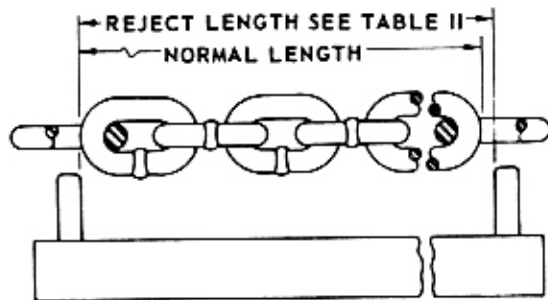

FIGURE 4-2. CHAIN SALVAGE GAUGE.
a. Inspect the chain for "elongation", which is a condition caused by overloading or wear. Table II shows the normal and reject lengths for CA hoist chain. A chain gauge similar to that shown in figure 4-2 or a Vernier caliper may be used. Hang the chain up or stretch it out on a work table in a taut position. Place one edge of the gauge or caliper over the end of a chain link. The number of links within the gauge limits will correspond to the "Number of Links" as indicated in Table II. If the last link, which should be within the gauge limits, makes contact or extends past the inside edge of the gauge, or if the reading of the Vernier caliper is equal to or greater than the "Reject